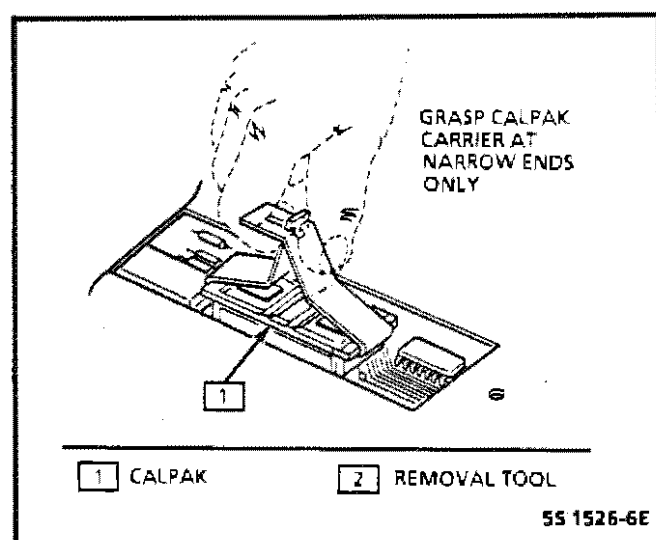

Figure C1-11 - Removing CALPAK
2. Remove CALPAK (Figure C1-11) using removal tool shown. Grasp the CALPAK carrier at the narrow end only. Gently rock the carrier from end to end while applying a firm upward force.